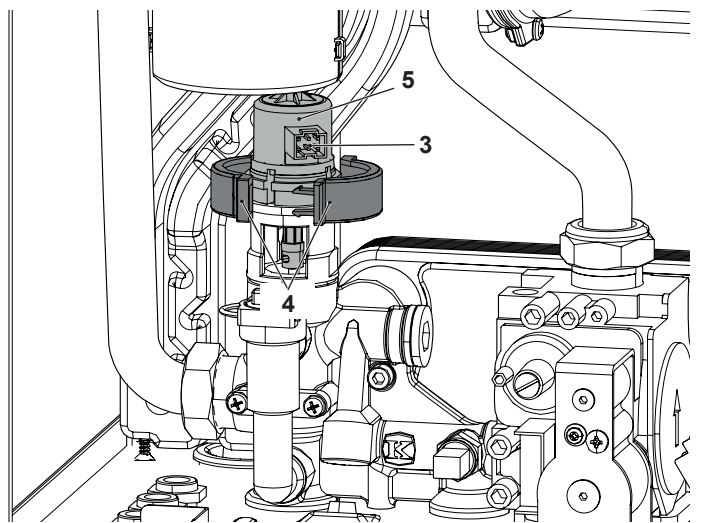

Figure 8.4
- 2 Disconnect the connectors "3" (Figure 8.4).